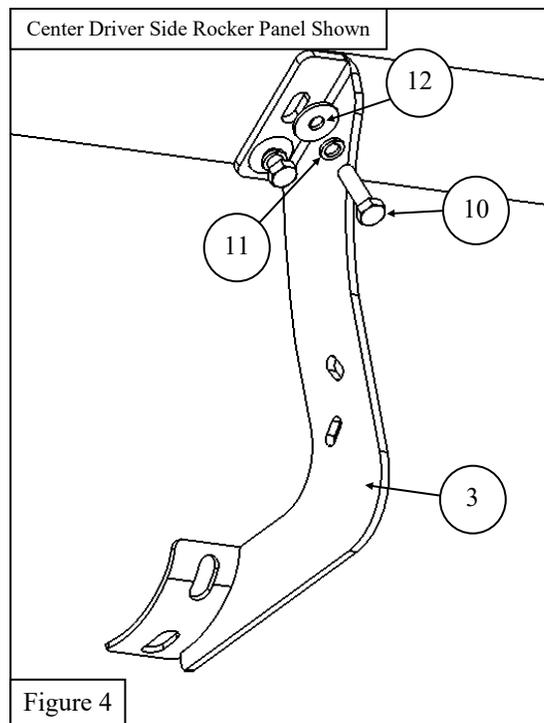

Figure 4
4. Locate (2) Driver Center and Rear Mounting Brackets (Item 3) and loosely secure the brackets onto the driver center and rear rocker panel mounting locations with the supplied M8 hardware (Items 10-12). See **Figure 4** for reference.